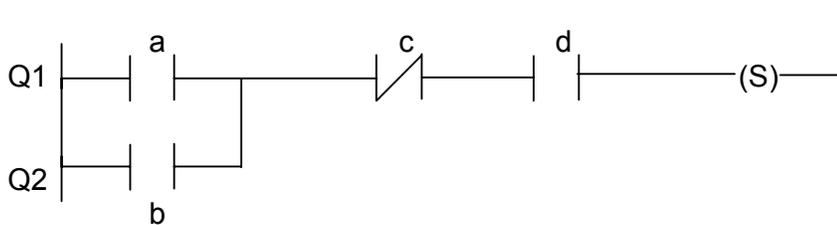

FIGURE 9.3 – PLC LADDER DIAGRAM
9.5 Give the Boolean expression of the ladder diagram shown in FIGURE 9.3.